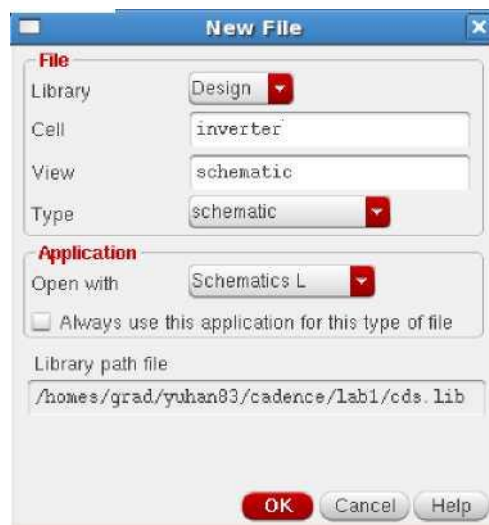

Figure 1. Creating a new schematic cell view of inverter
- In the Library Manager window, please select “Design” library, and then File > New > Cell View. Create a cell named "inverter" in the “Design” library with its "schematic" view as seen in Figure 1.